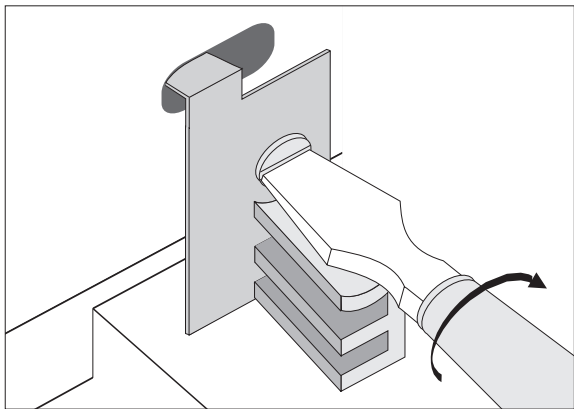

Fig 8-7 Release the Flip Latch
2. Use a flathead screwdriver to release the flip latch from the power module. See figure 8-7.